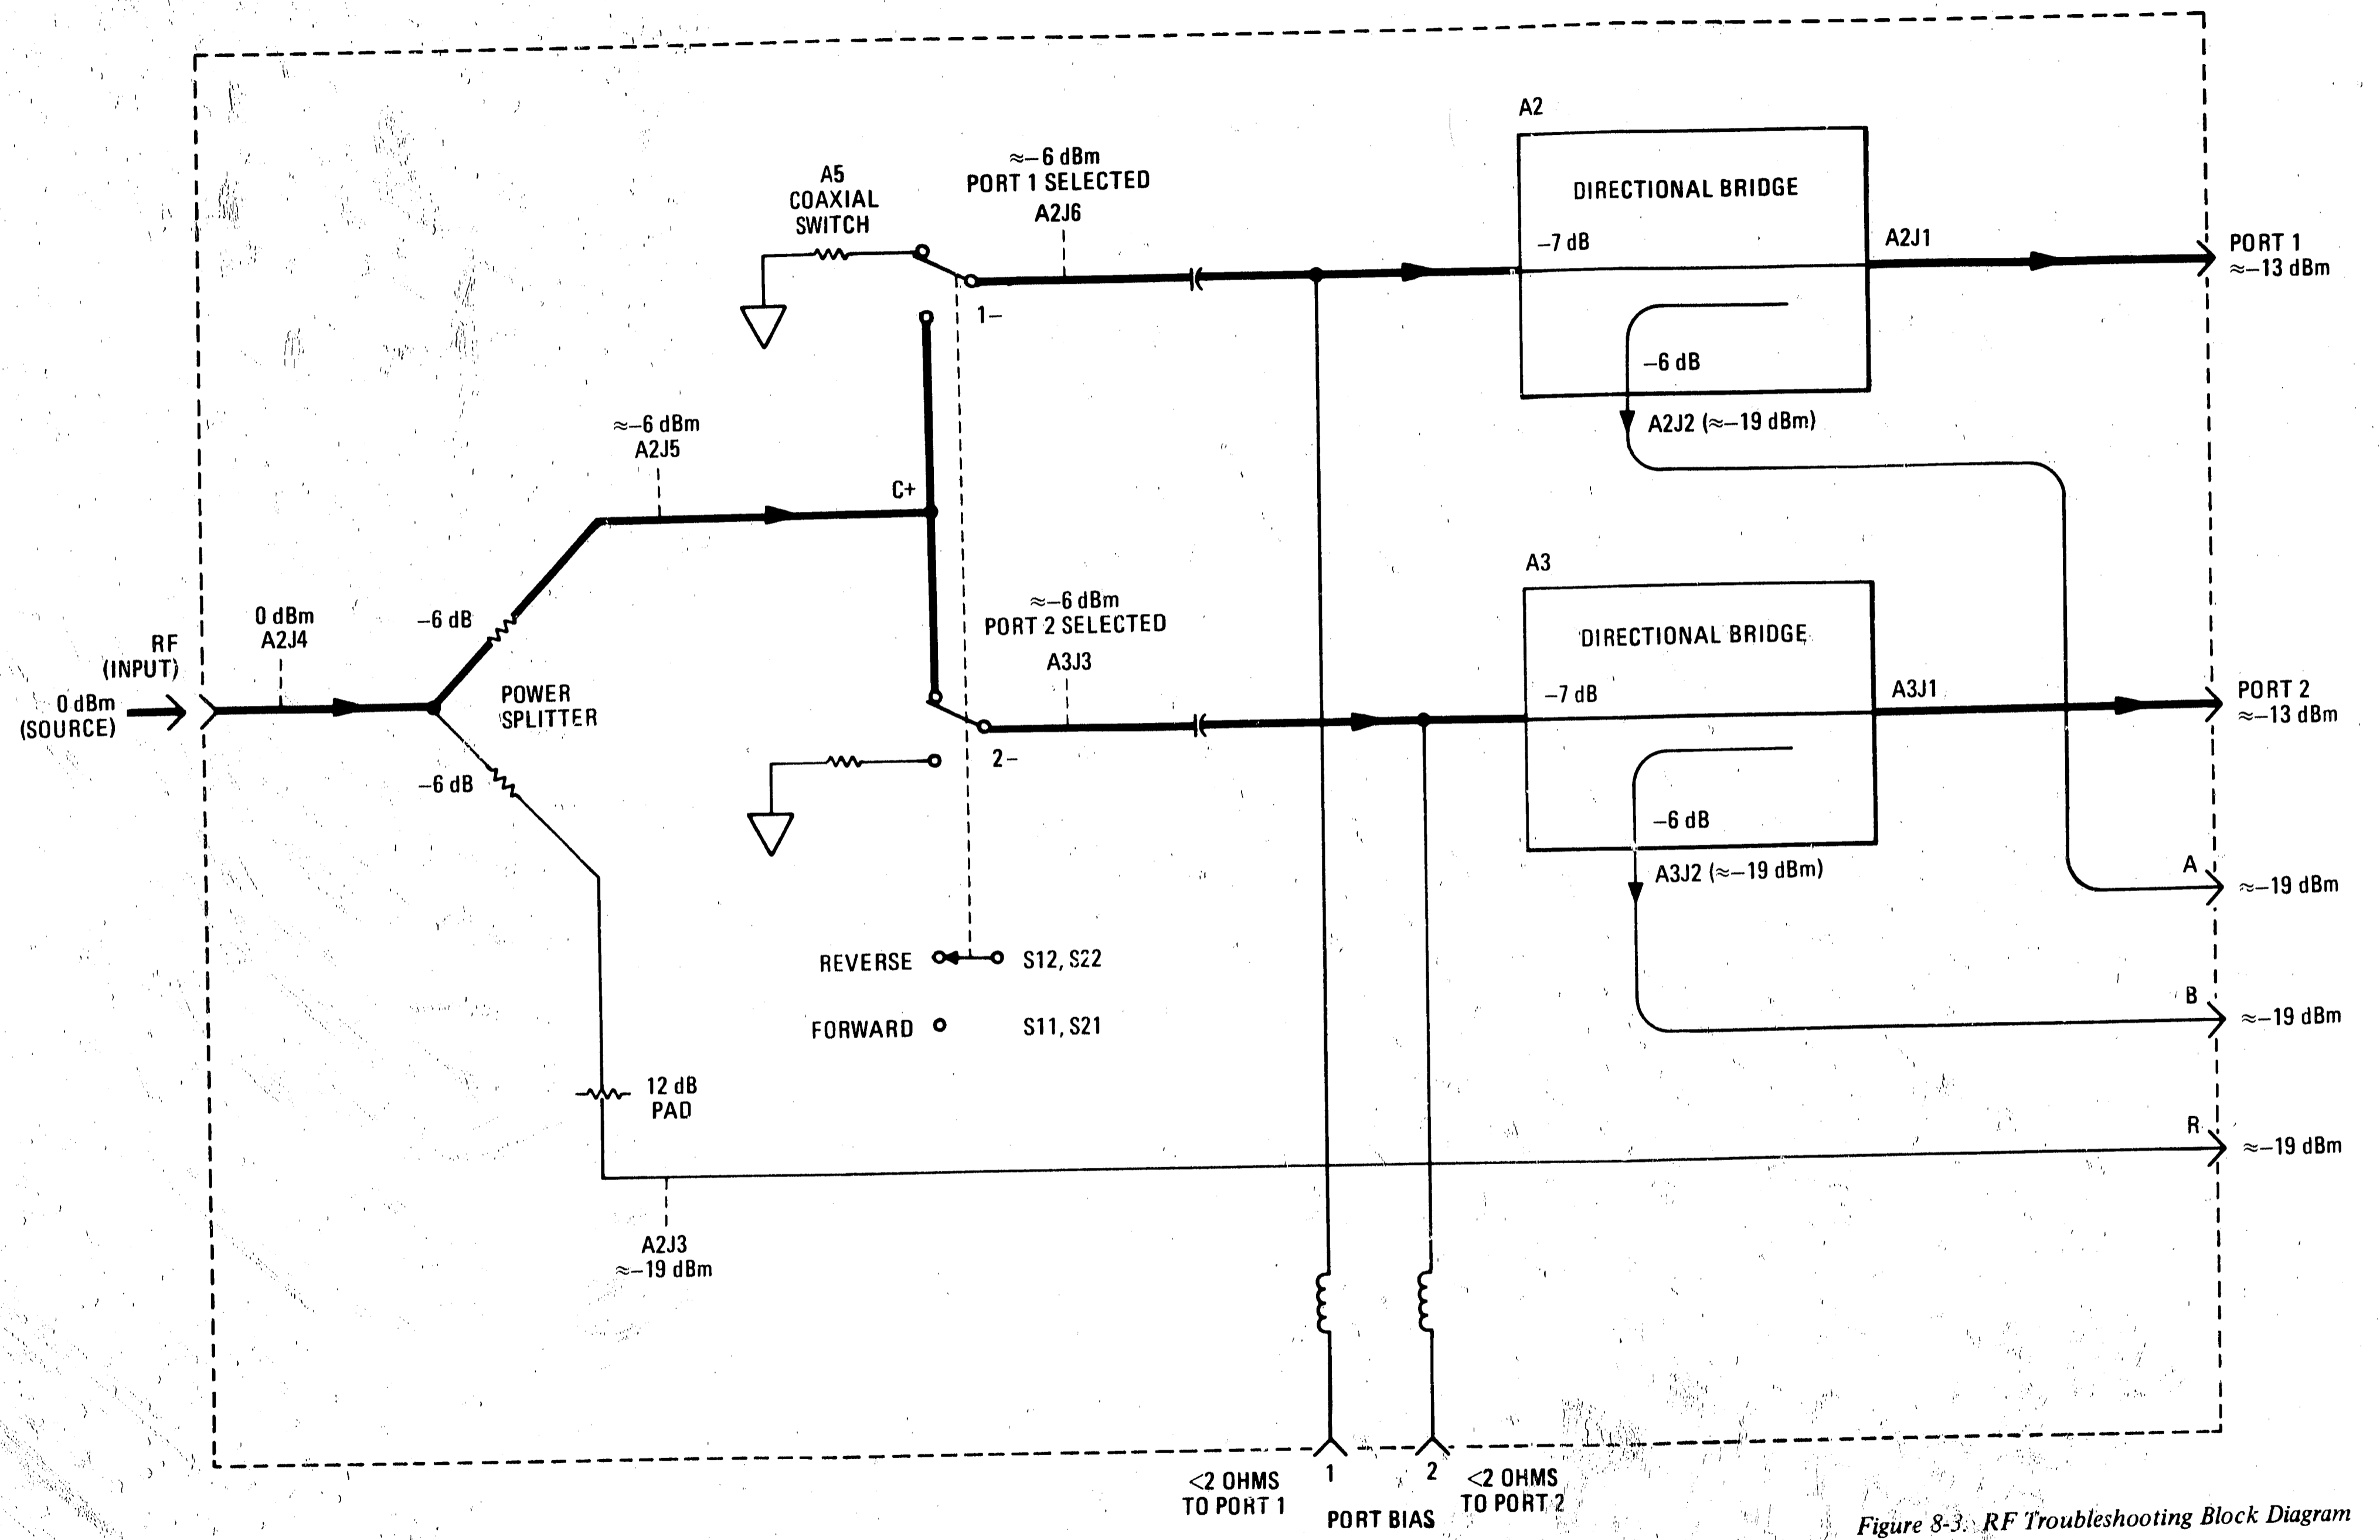

Figure 8-3. RF Troubleshooting Block Diagram
- c. Disconnect RF cables one at a time and check for power levels indicated in Figure 8-3. When checking signal level at Coaxial Switch outputs, switch 8503A S-PARAMETER SELECT switch to insure that A5 is functioning properly.